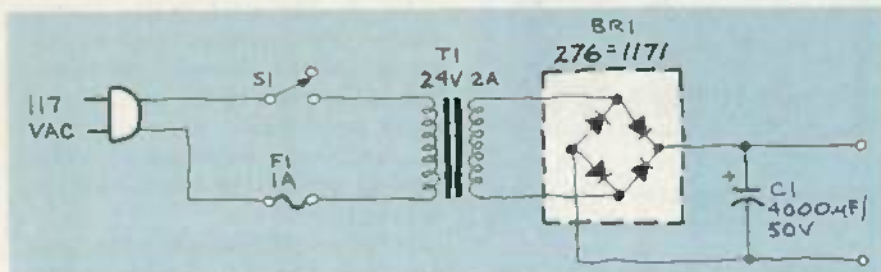

FIG. 1
One of our readers, Carl Muller (CA), is looking for a power supply to operate a 24-volt, 2-amp DC motor. He specifies that the circuit contain a full-wave bridge rectifier. Well, Carl, because the voltage and regulation do not appear to be critical, the circuit in Fig. 1 should fill the bill.
Note the ratings given for the components. If you can't find those values, use the next largest values you can find (except the fuse, of course). The bridge itself can be made of individual diodes (arranged in the same way) or you may prefer the packaged type (which is nothing more than a four-diode arrangement sealed in a plastic case). In the latter category, a 4-amp, 100-PIV (Peak Inverse Voltage) full-wave bridge like the Radio Shack 276-1171 shown in Fig. 1, will probably work all right. But we'd prefer the extra margin of safety provided by 6-amp diodes.
That conversion is called "rectification." There are several rectifier arrangements that may be used—*half-wave*, *full-wave*, and *full-wave bridge*. The power supply shown in Fig. 1 is a good example; it uses the full-wave bridge arrangement. Note that the circuit does two jobs: First, the transformer reduces the 117-volt AC to 24 volts. Second, the bridge rectifier takes in that lower AC and "spits out" a proportionate DC voltage. The capacitor simply smoothes (filters) out the ripple a bit.